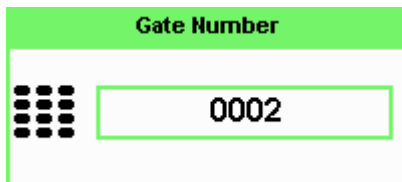

Figure 2-72 Gating Number pop-up
- 8 Press  to display the **Gate Number** pop-up, see Figure 2-72, and use the numeric keypad to enter the required value in the **Gate Number** pop-up window.